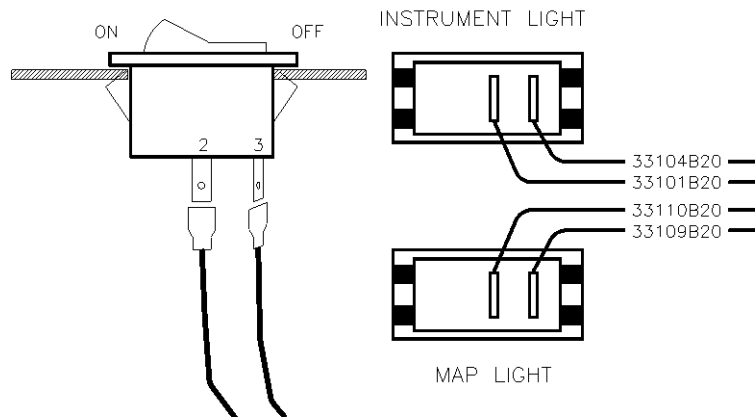

Figure 2:
- 10.8 Pass the switch wires through their respective holes and connect them to the switches in accordance with Figure 2.